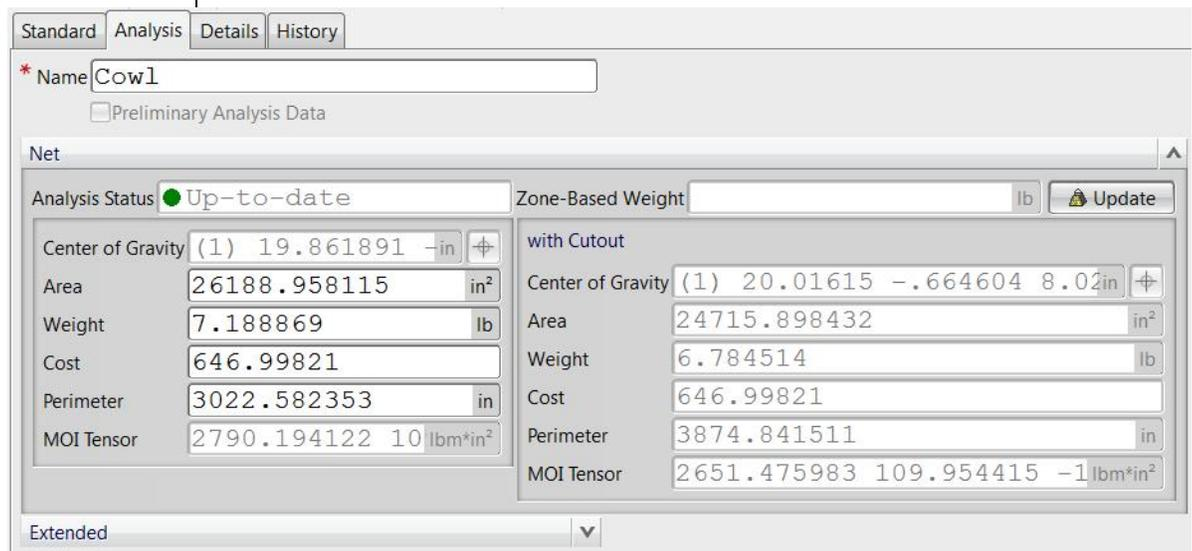

Figure 3–46
6. Click . The results display. Compare the **Net** results and the **with Cutout** results as shown in Figure 3–46.